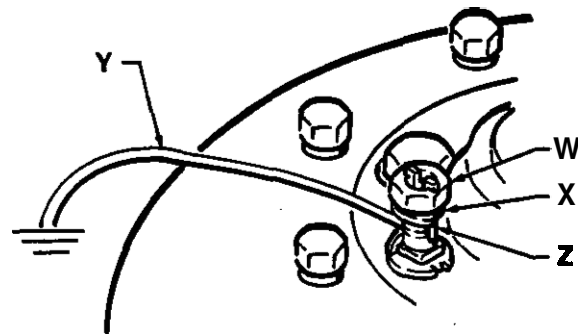

Fig 3-1
To ground the pump, loosen the grounding lug locknut (W) and washer (X). Insert one end of a 12ga. (1.5 mm²) minimum ground wire (Y) into the slot in lug (Z) and tighten locknut securely. See Fig 3-1. Connect the other end of the wire to a true earth ground. Refer to page 10 to order a ground wire and clamp.